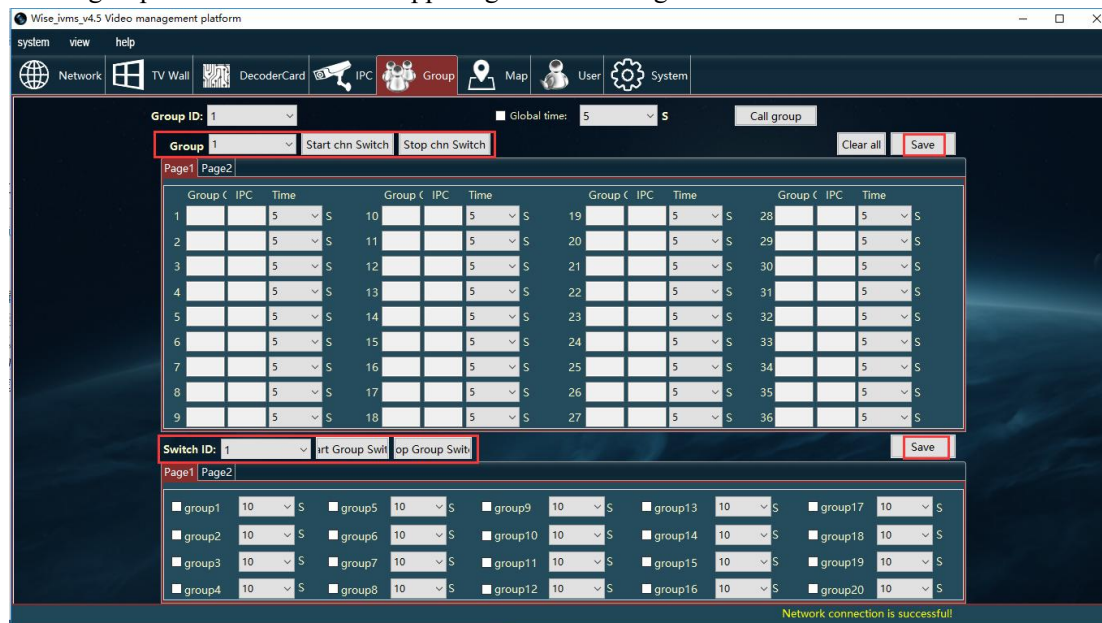

Figure 3.37 Group Settings
- Set group cutting: in the second box of figure 3.37, check the group that you want to set as a group and save it. (group refers to a previously set group, for example, group 1 is a group with a group ID of 1.)
- IPC group call in: select a group ID from the group ID drop-down box, and click the "IPC group call in" button in the upper right corner of figure 3.37.